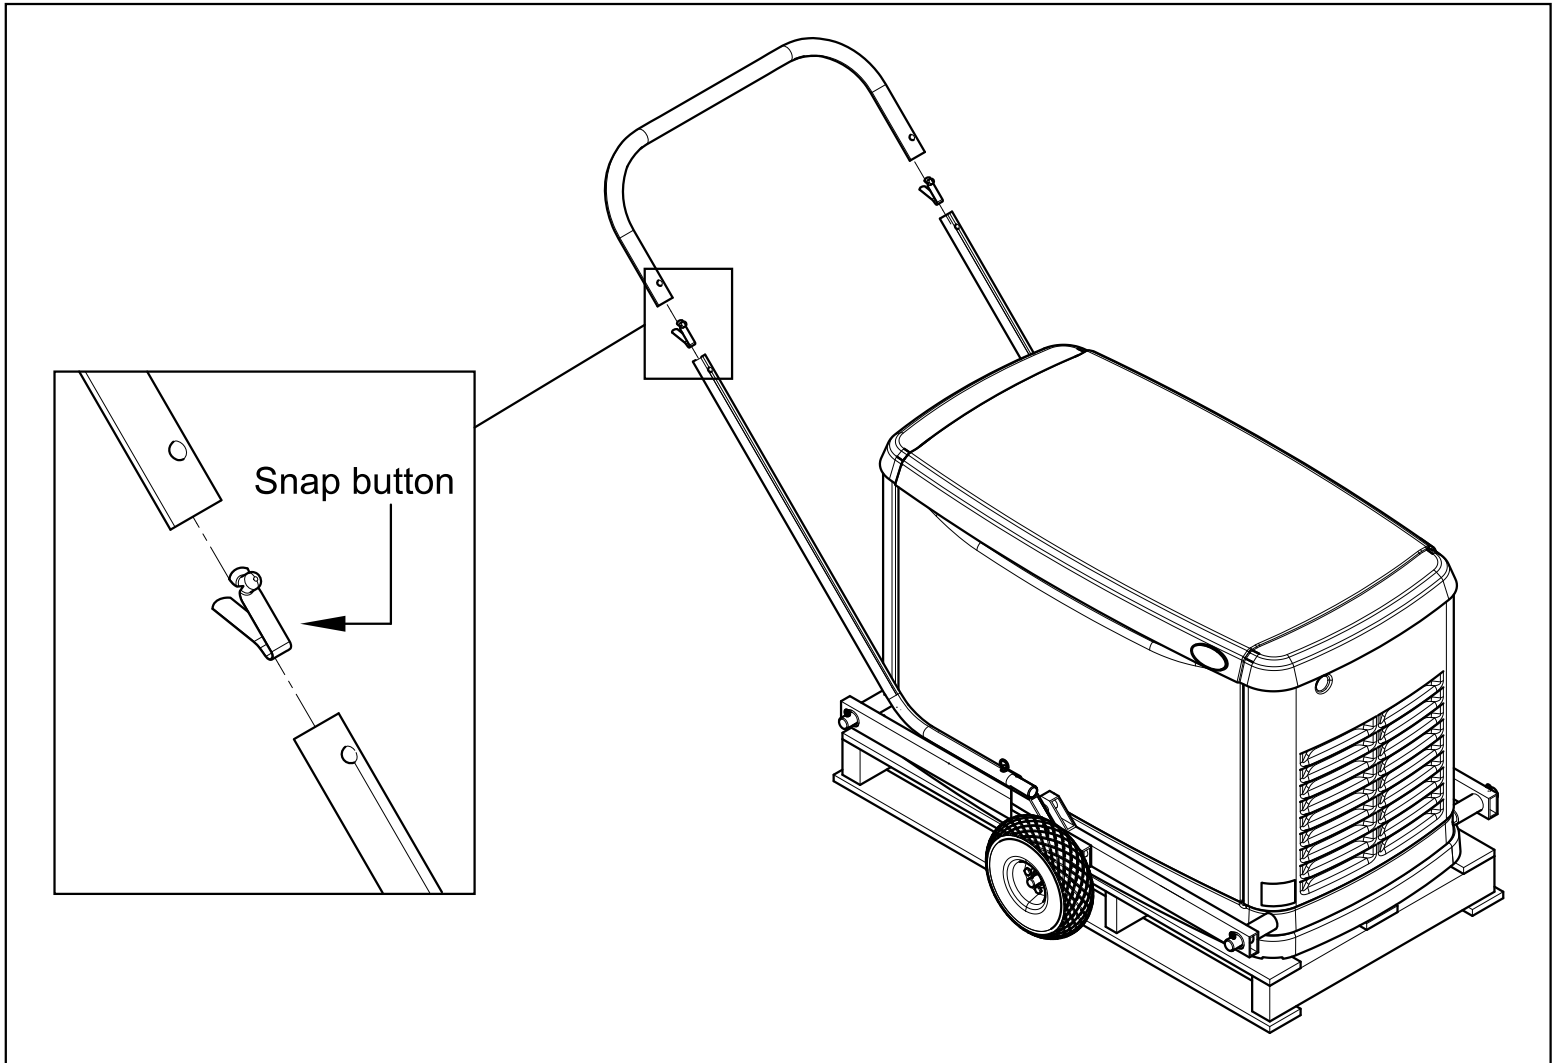

Figure 5
Step 5.) Insert snap buttons into the ends of the side rail handles. Pay attention to the orientation of the snap buttons in relation to the side handles. Once snap buttons are correctly inserted, push top handle into place. See figure 5.